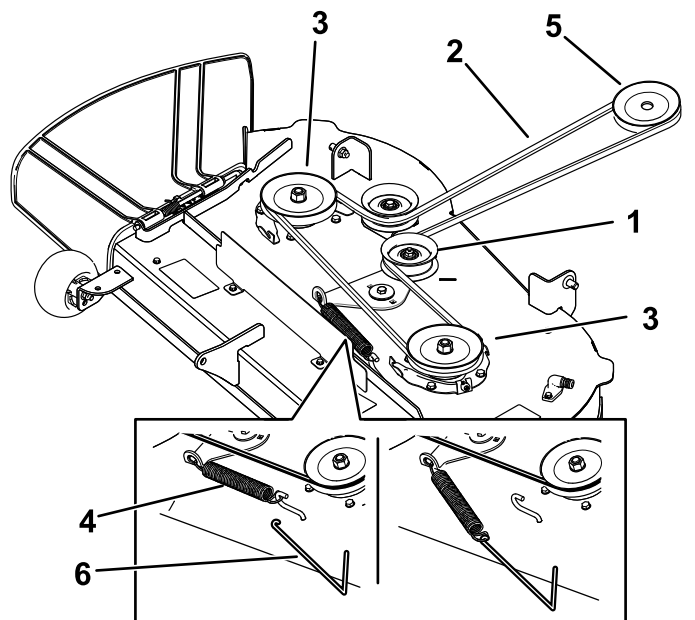
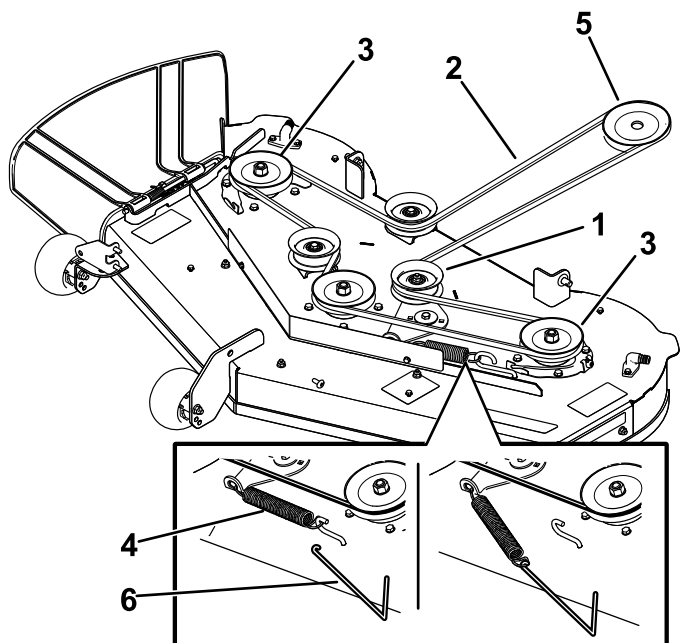

Figure 54
Figure 55
6. Using a spring-removal tool (Toro Part No. 92-5771), remove the idler spring from the deck hook to remove tension on the idler pulley, and roll the belt off the pulleys (Figure 54 or Figure 55).
7. Route the new belt around the engine pulley and mower pulleys (Figure 54 or Figure 55).
8. Using a spring-removal tool (Toro Part No. 92-5771), install the idler spring over the deck hook and place tension on the idler pulley and the mower belt (Figure 54 or Figure 55).